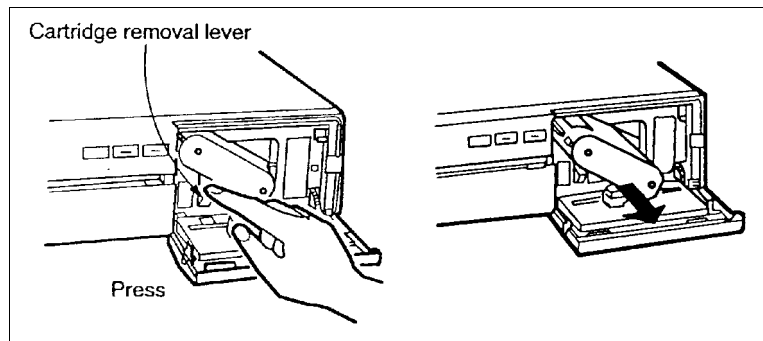

Figure 6-14. Removing the Ink Cartridge
1. Open the cartridge cover, press the cartridge removal lever, and remove the cartridge (Figure 6-14).